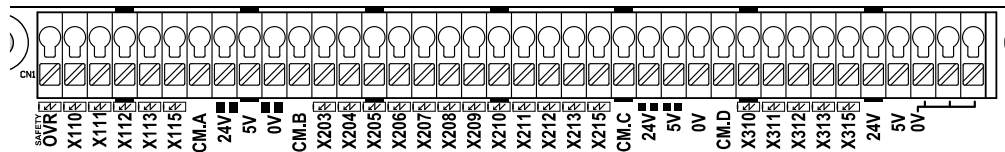

Figure 9, Input terminals
**Figure 9** shows 23 input terminals. There are all universal inputs, divided into 4 main groups. Each group has its own common terminal.